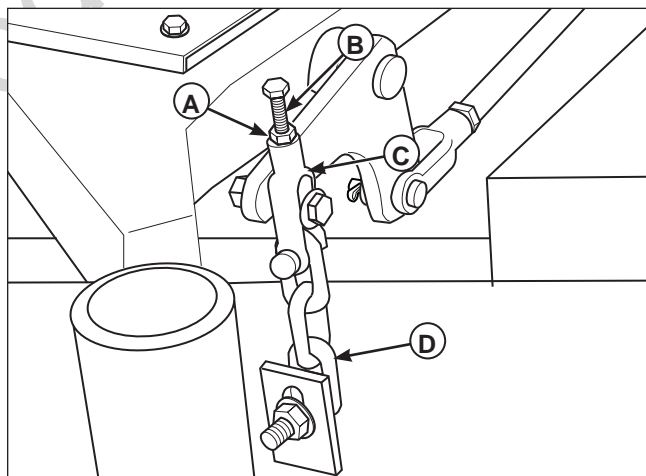

Figure 30. Lift Rod Clevis Adjustment
8. Loosen the hardware that tightens the bottom of the hanger chain (D, Figure 30) to the deck. Slide the chains down in the slots until the chains are tight and tighten the nuts. See Figure 30.
11. Loosen the jam nut (A, Figure 30) on the adjuster bolt (B) in the chain hanger clevis (C). Turn the adjuster bolt until the correct measurements are achieved. Ensure that all four hanger chains are taut, then retighten the jam nut against the chain hanger clevis.